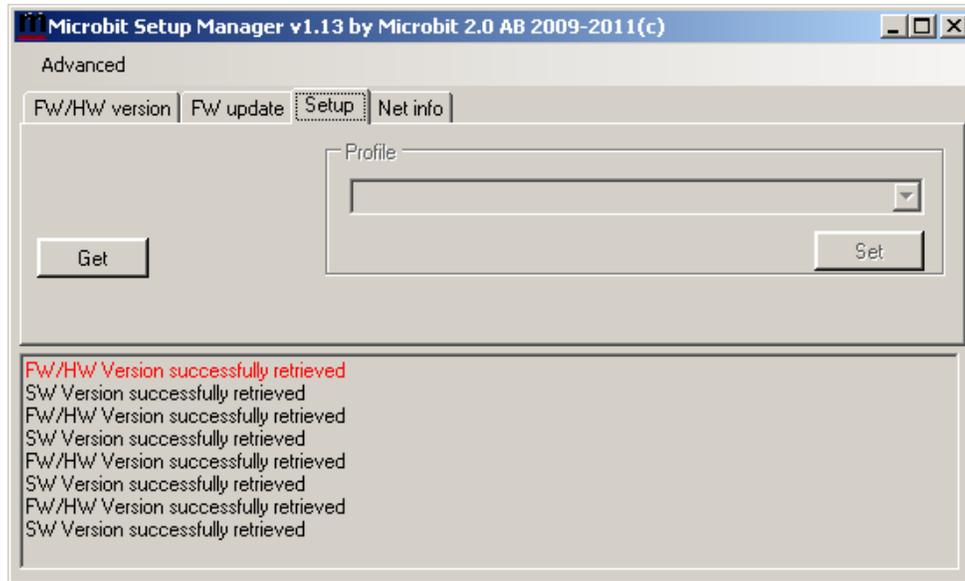

Figure 3
- Click on the Setup tab to open the window shown in Figure 3.